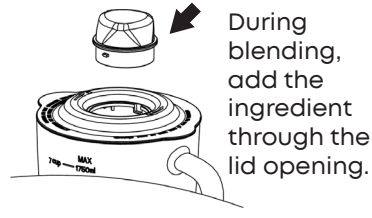

Fig. 7
7. If you want to add ingredients while the blender is working, remove the measuring cup and place through the lid opening. See Fig.7